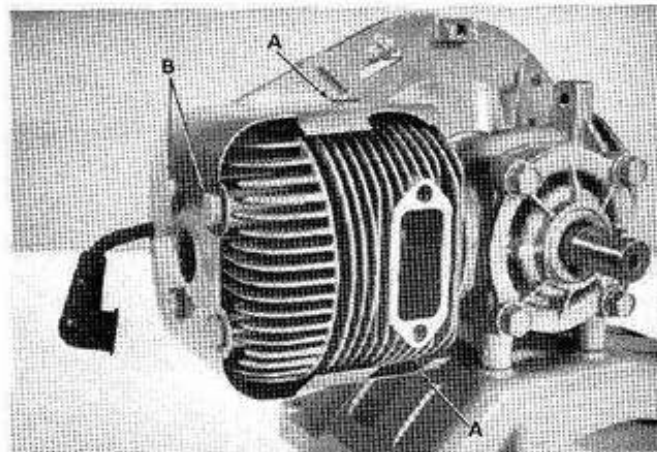

Figure 68. Baffle and Cylinder Head Removal.
- b. With a 1/2" socket, remove the four hex head bolts (B) from the cylinder head. (See Figure 68.)